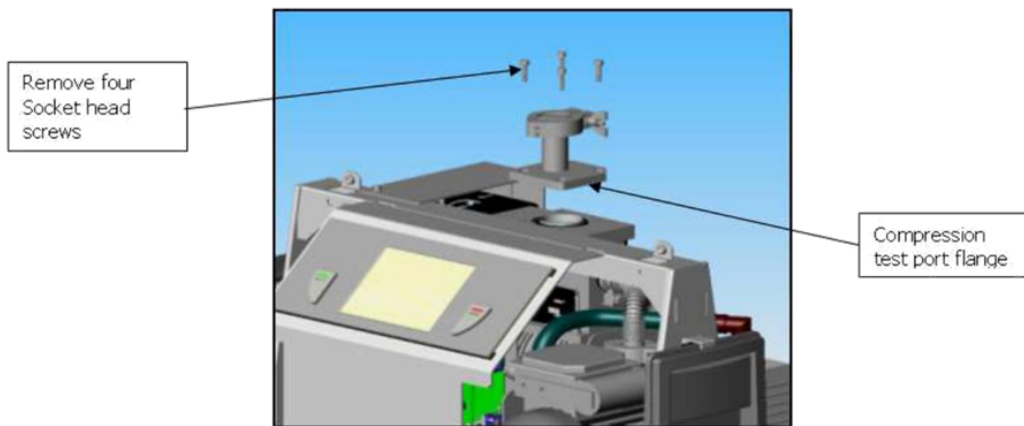

Figure 2: Compression Test Port Flange
5. Using an M5 allen wrench remove the four screws and disconnect the compression test port flange (Figure 2: Compression Test Port Flange). Do not discard hardware.